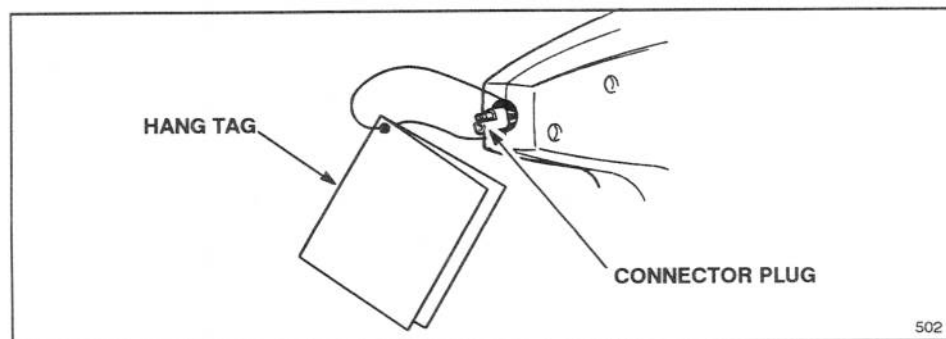

Figure 2
2. Remove hang tag from connector plug extending out of battery housing. **Make sure connector plug does not pull back into housing (Fig. 2).**